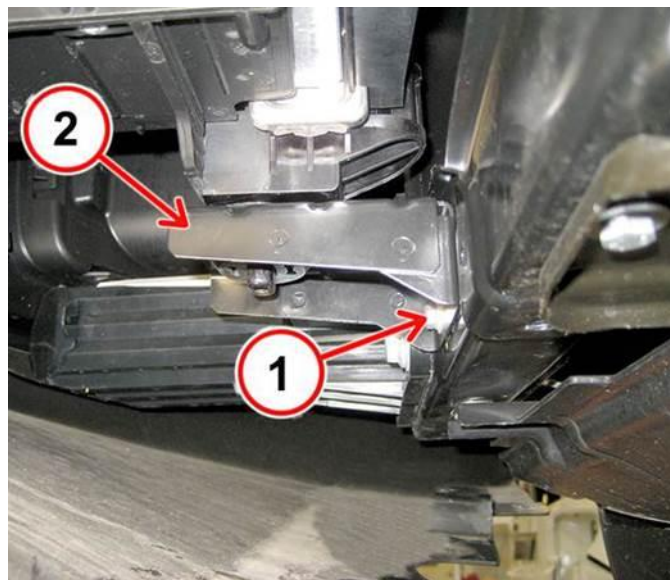

Fig. 3 Remove Radiator Support Brackets
4. Remove the bolts (1) from the radiator support brackets (2) on both the right and left sides of the vehicle and remove the brackets (Fig. 3).